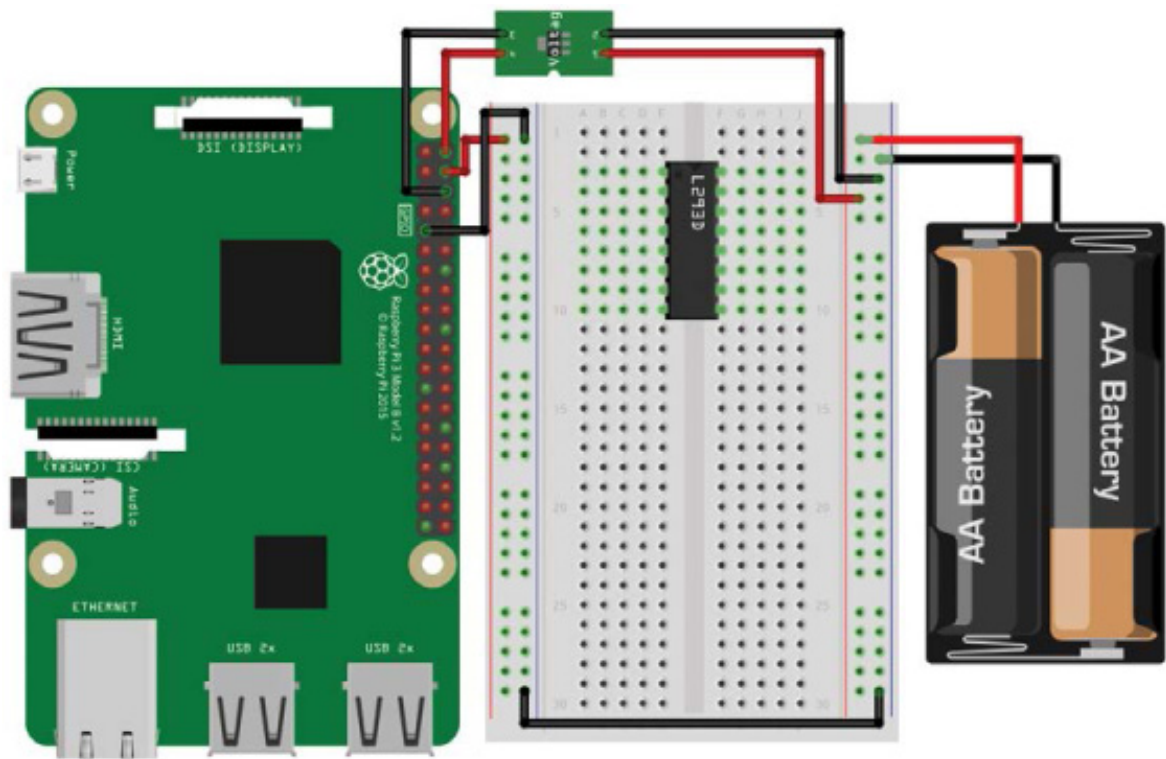

FIGURE 3-24 The L293D IC inserted into the breadboard with the Pi's power rails connected
M-F jumper wire to connect the second 5 V pin (physical pin 4) of your Pi to the red power rail on the edge of your breadboard that you're *not already using*. Use another M-F jumper wire to connect a ground pin of your Pi (physical pin 9) to the blue power rail on the same side; see Figure 3-24. *Make sure you're not connecting anything to the power rail that you previously wired up!*
4. Now we'll connect the grounds of the two power rails up. Connect the two ground rails on your breadboard by running a black M-M wire from one blue power rail to the other. This connects your Pi's ground rail to your battery's ground rail, as shown in Figure 3-24. We refer to connected grounds as the *common ground*.